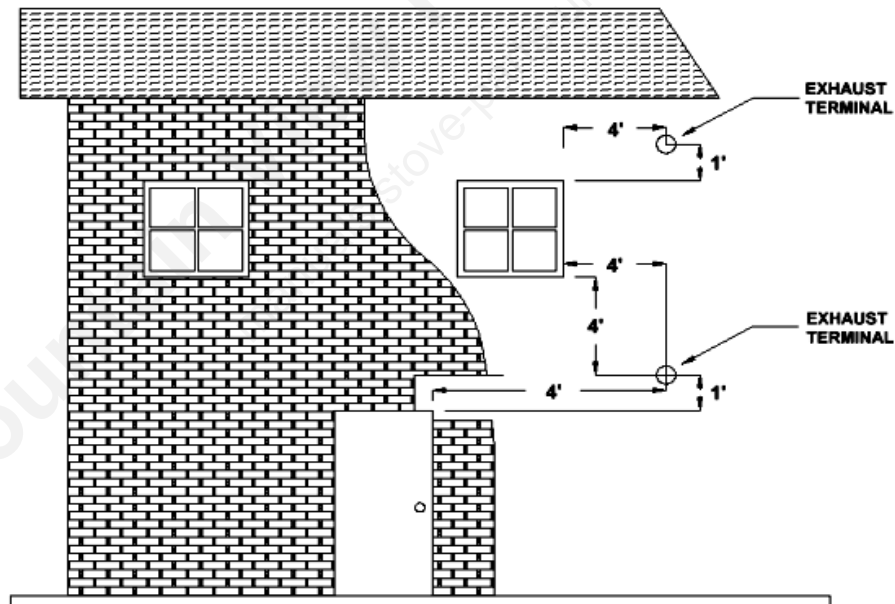

Figure 8a
**The type of installation must first be considered before determining the exact location of the venting termination in relationship to doors, window, cavities or air vents. See figures 8a and 8b below.**
- a. **Without** Outside Air connected to the unit. For These types of installations please refer to the dimensions listed below in figure 8a.